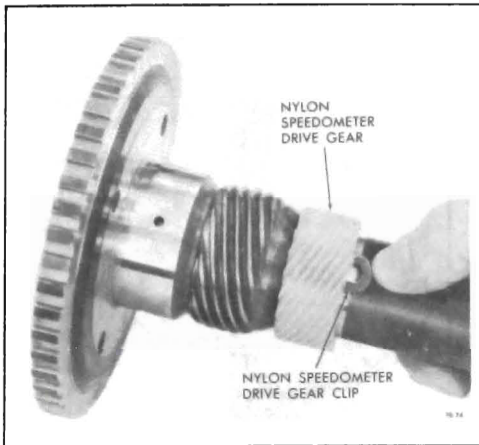

Figure 76-569
c. *Nylon Speedometer Drive Gear:* Depress retaining clip and slide nylon gear off output shaft. See figure 76-569.
d. To install, place retaining clip (square and toward flange of shaft) into hole in output shaft. (See Figure 76-569) Align slot in speedometer drive gear with retaining clip and install gear.